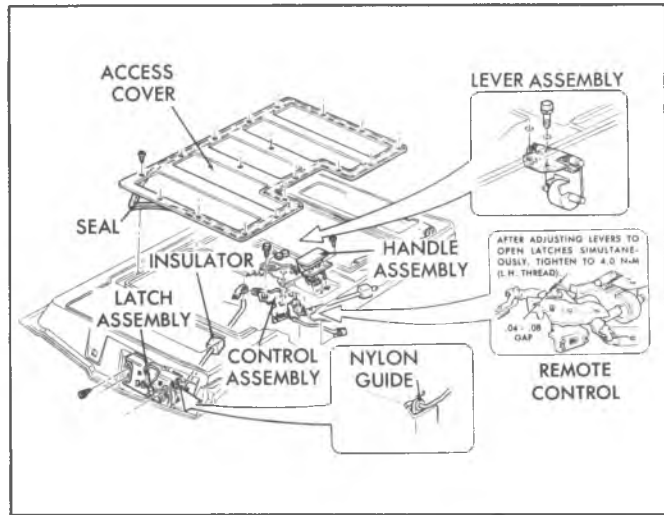

Fig. 2D-59--Latch and Remote Controls--(06 Only)
5. Remove R.H. torque rod bracket screws, figure 2D-58, then remove torque rod from endgate.